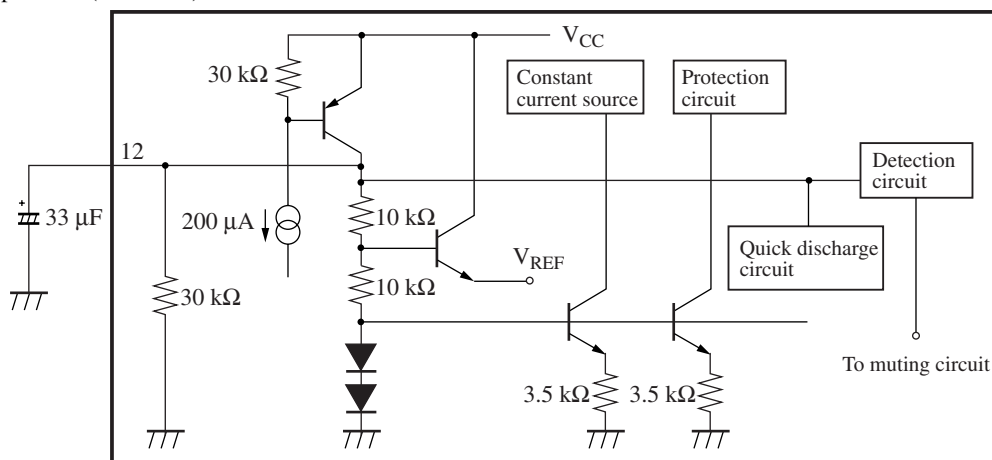

Figure 4
- 5) The internal circuit of ripple filter terminal is as shown in figure 4 and the charge current is approx. 3 mA to 10 mA.